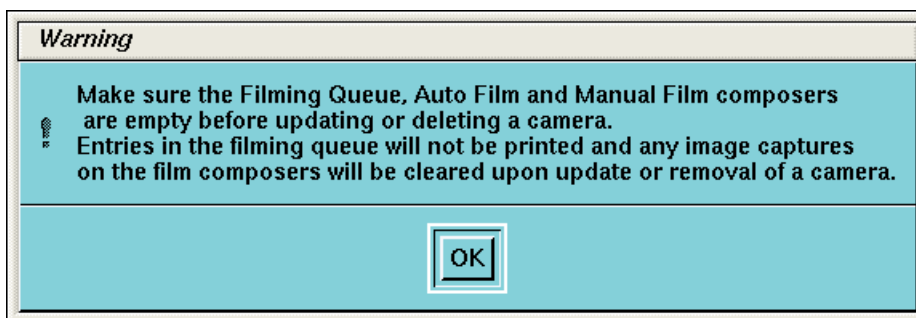
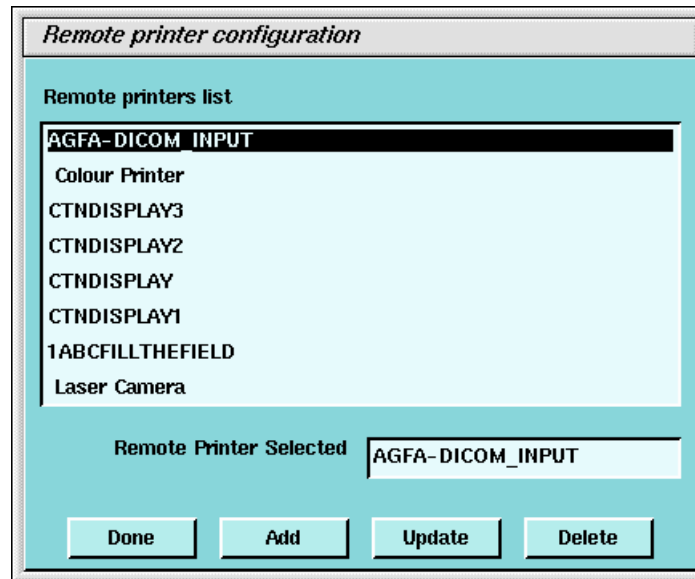

Figure 4-9 Warning Screen
Figure 4-10 Printer Configuration GUI
- 3.) The Graphical User Interface displayed shows a list of cameras installed (See Figure 4-10). First, you must click OK in the warning message box. See Figure 4-9.
- a.) To add a new camera, click the ADD button (See Figure 4-10).